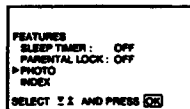
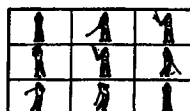

Fig. 22
Fig. 23
- 3 Select "PHOTO" with Δ+ or ∇- and press OK. (See Fig. 22.) The preset programme is displayed in nine separated screen in sequence. (See Fig. 23.)